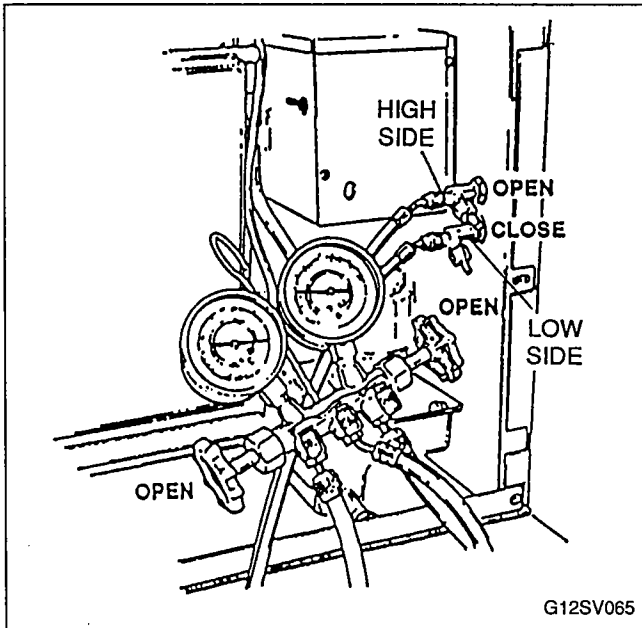

FIGURE 63. INSTALLING MANIFOLD GAUGES
1. Connect high side line to high side service valve at ice machine. See Figure 63.